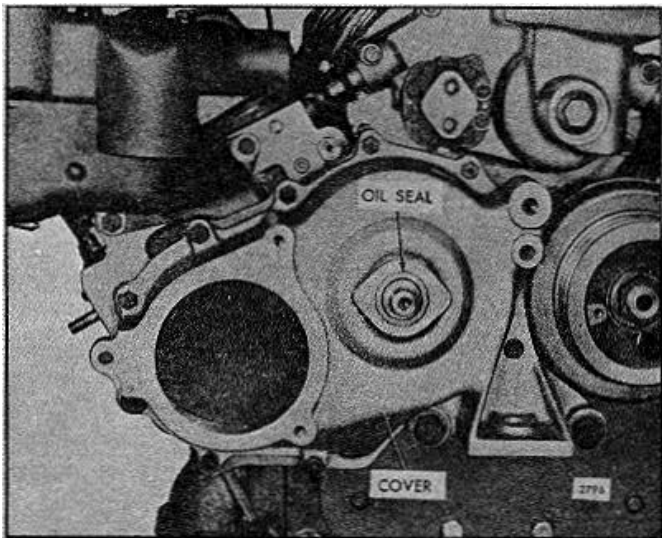

FIG.. 1 - Balance Weight Cover Mounting
The balance weight cover (Fig. 1) encloses the combination balance weight and water pump drive gear on the front end of the right cylinder bank camshaft. This cover also serves as a support for the water pump.
2. An accessory drive shaft oil seal is pressed into the balance weight cover on some engines (Fig. 1). If necessary, replace the oil seal as follows: